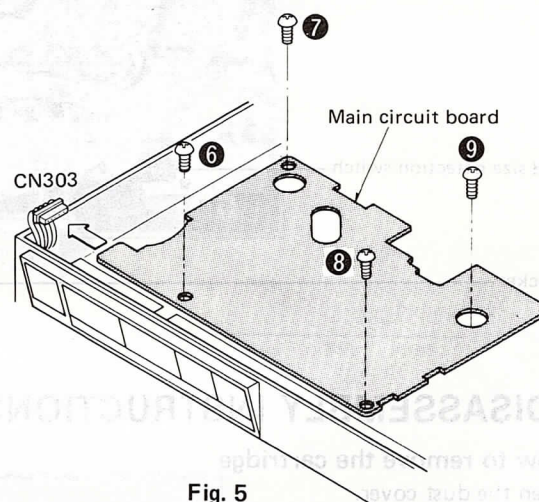

Fig. 5
2. Remove the 4 main circuit board setscrews (Fig. 5: ⑥ ~ ⑨).